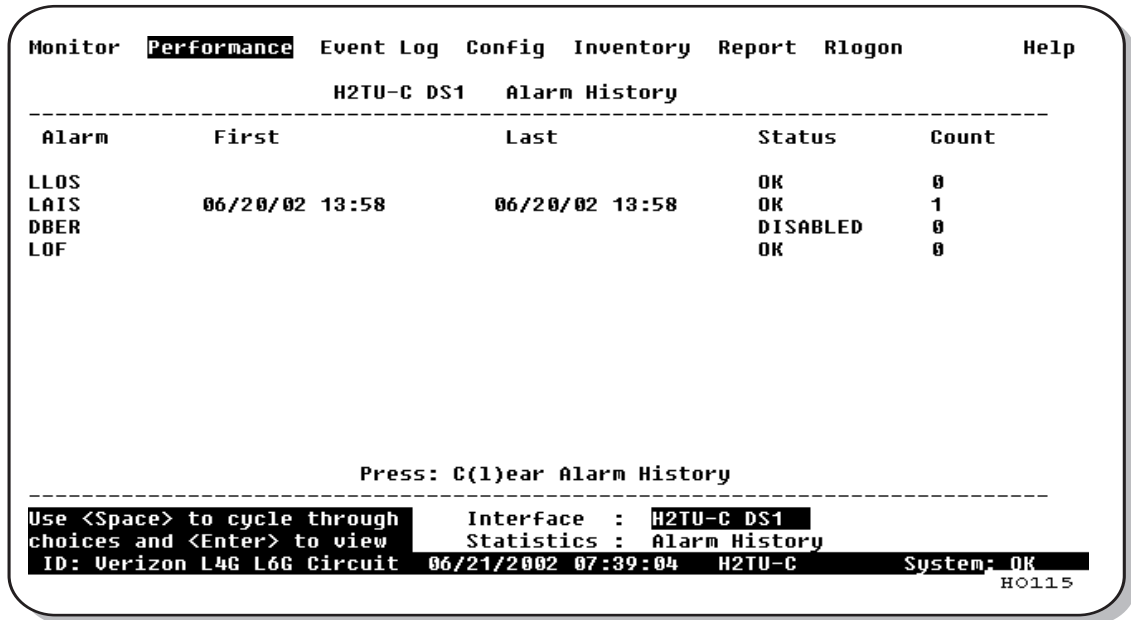
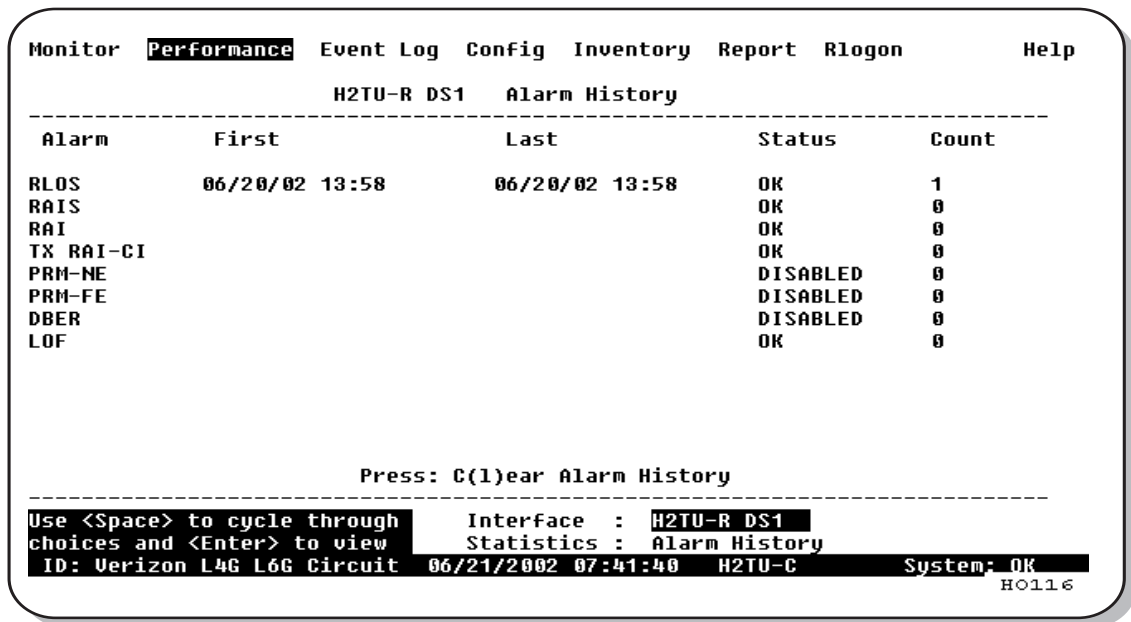

Figure 22. H2TU-C DS1 Alarm History Screen
Figure 23. H2TU-R DS1 Alarm History Screen
- Alarm statistics for the DS1 interfaces (Figure 22 on page 35 and Figure 23 on page 35) or HDSL2 interfaces (Figure 24 on page 37) on a continuous basis.
The Alarm History screen reports on a continuous basis the DS1 statistics for the H2TU-C (Figure 22 on page 35) and the H2TU-R (Figure 23 on page 35). The types of alarms reported are described in Table 17 on page 34. Current alarms are shown in reverse video.
H2TU-C DS1 Alarms (see Figure 22 on page 35)
H2TU-R DS1 Alarms (see Figure 23 on page 35)